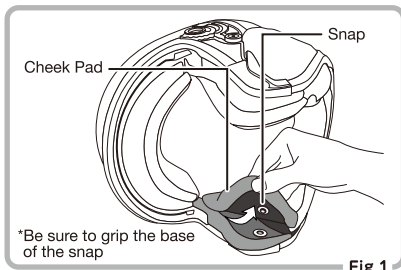

Fig.1
- ① Undo the three snaps on the back side of the cheek pads. (Fig.1)